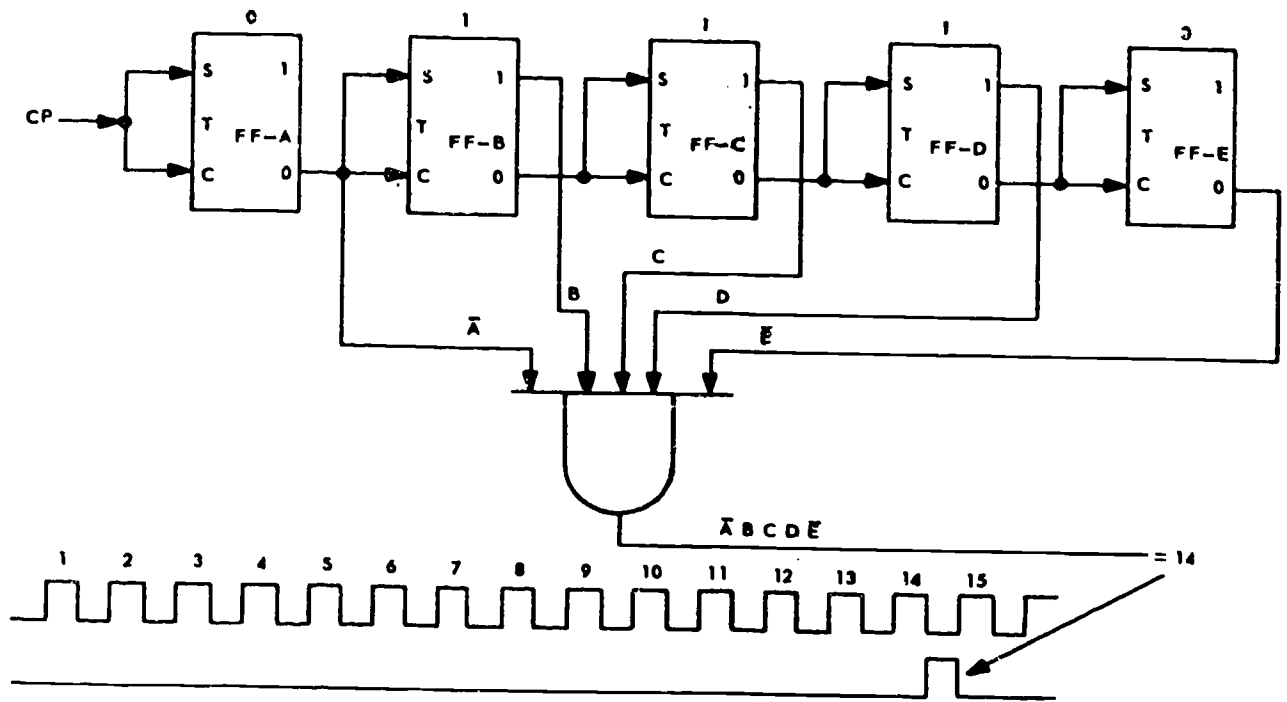

Figure 1-8. Count detection of 14.
AND- and OR-Gate Decoders. Figure 1-8 shows a serial up-counter with a simple AND-gate decoder. Notice that the AND-gate produces a positive pulse output when count 14 is present in the counter. This pulse may be used for any control function that must occur at count 14.
1. Using figure 1-8, write the Boolean equation for the AND-gate if the circuit were to be designed to detect count 12.